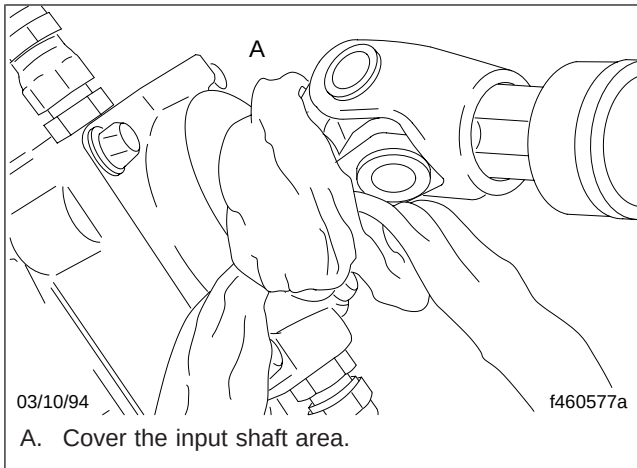

Fig. 4, Shop Towel Covering the Input Shaft
8. Tie or wrap a shop towel around the input shaft area and place a drip pan under the vehicle to catch the oil. See Fig. 4.